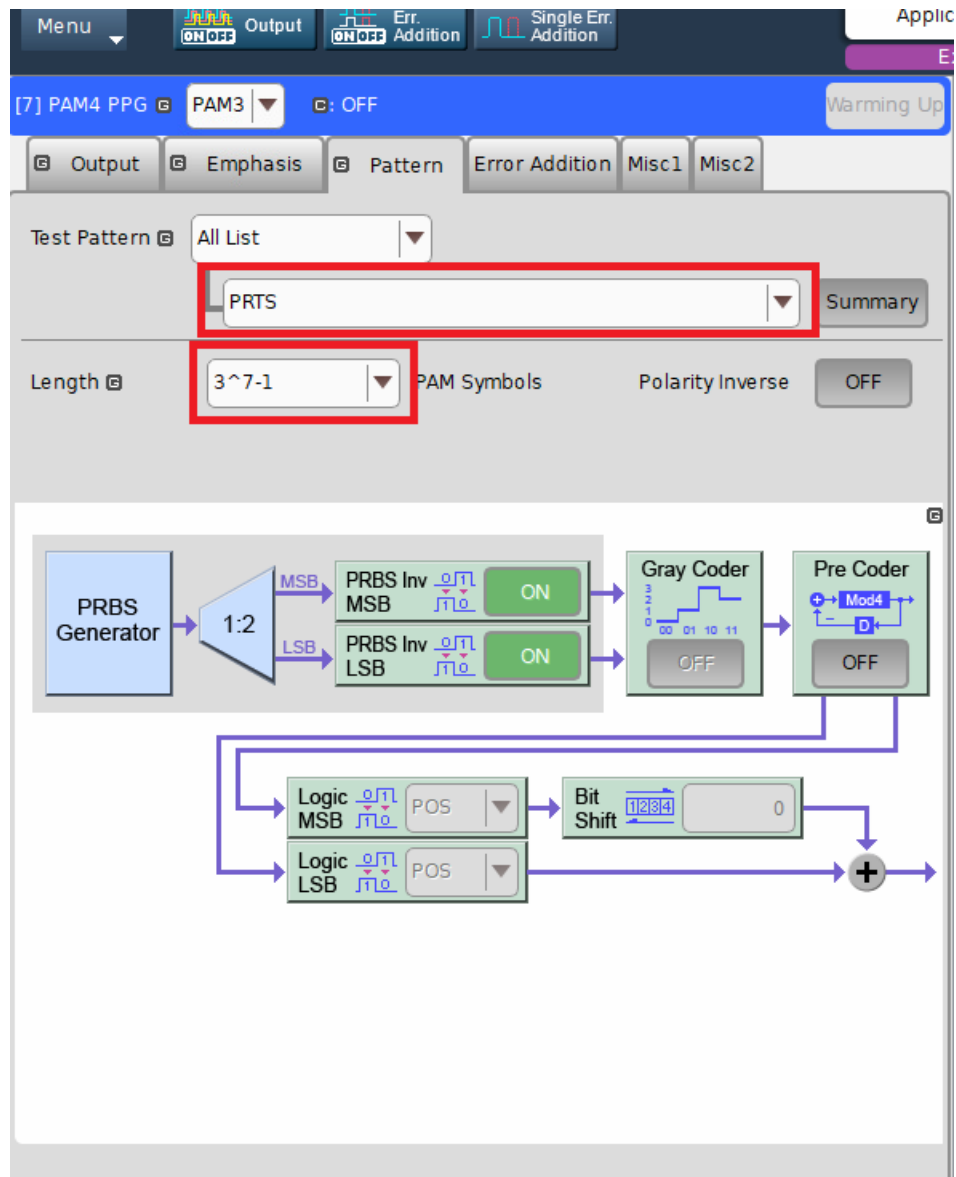

FIGURE 63. PATTERN SETTING
- ix. Set Test Pattern on PPG to “PRTS” and Length to “ 3^7-1 ” bits. See Figure 63.